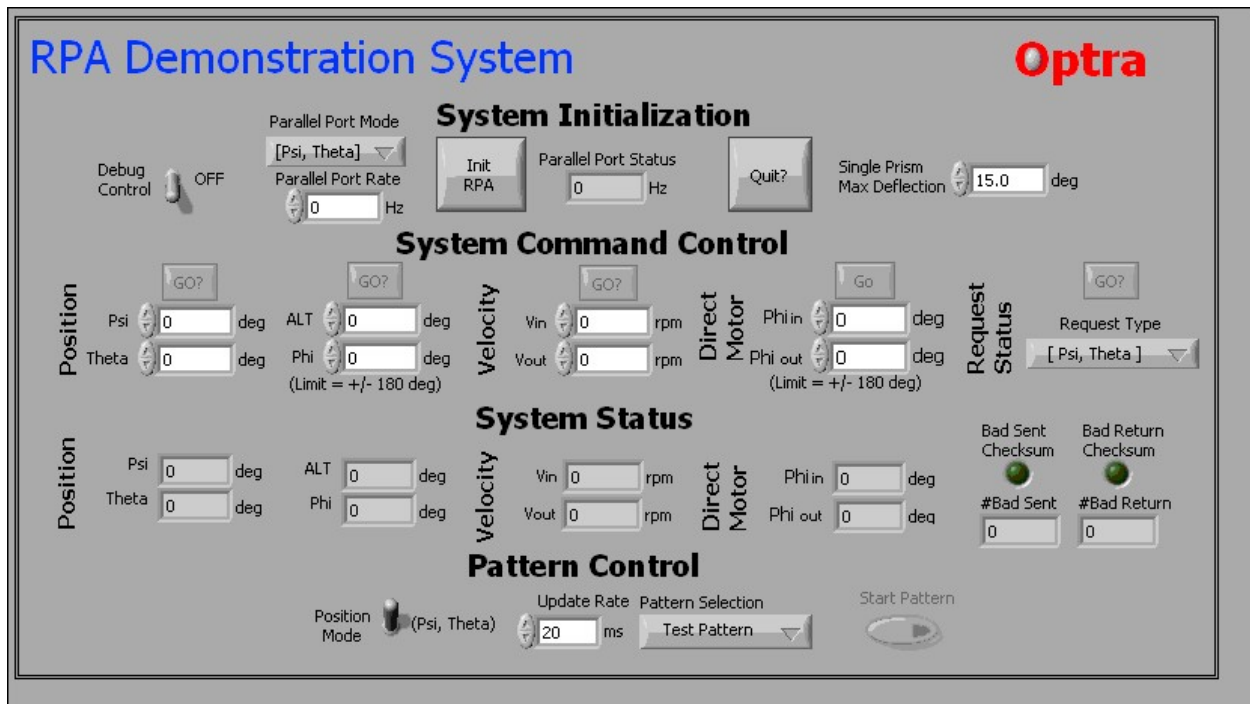

Figure 4 – RPA command window
3. The command window depicted in Figure 4 will automatically open. Each section of the GUI is described in following subparagraphs.